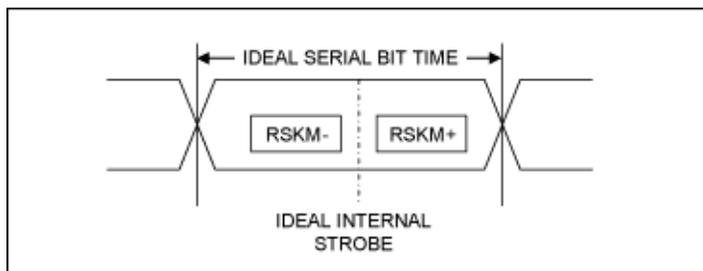

Figure 5. RSKM-, RSKM+, and strobe signal relationship.
5. Subtract the delay offset from "+ delay". This is called "RSKM-". Add the delay offset to "-delay". This is called "RSKM+". **Figure 5** shows the RSKM- and RSKM+ regions with respect to the internal strobe signal of the deserializer.